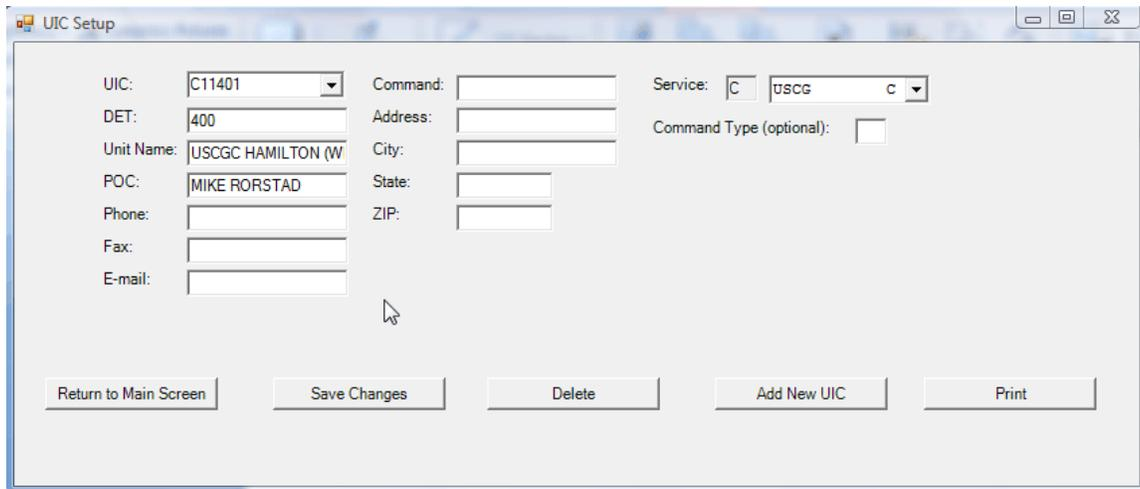

Figure 37. UIC Setup
(2) Press Add/Modify UIC and the following screen will appear (Figure 37).